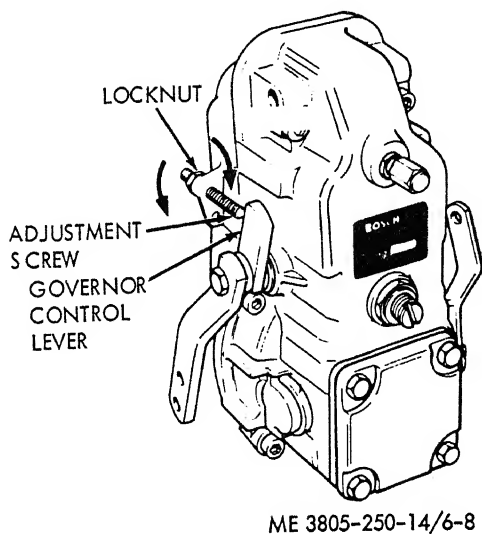

Figure 6-8. No load governed speed adjustment.
1. Check that the governor control lever (fig. 6-8) rests against the no load governed speed adjustment screw when the throttle is in the no load governed speed position. If necessary, adjust the throttle linkage until the lever rests against the screw. Check engine speed.
2. If the control lever rests against the adjusting screw and engine speed is still low, loosen the locknut (fig. 6-8) and turn the no load governed engine speed adjusting screw counterclockwise one-half turn at a time. Check engine speed with each half turn of adjustment. When proper engine speed is attained, tighten locknut.
1. Loosen locknut (fig. 6-8).